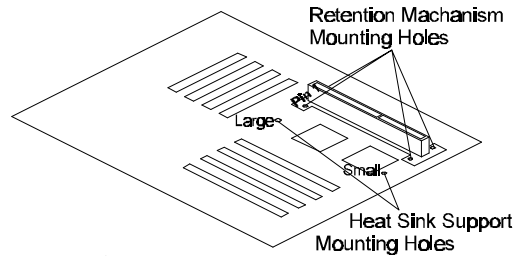

Figure 2-8
1. Finds out the Retention Mechanism (RM) Mounting Holes and "Pin 1" mark of Slot 1 on HOT-661V main board. (Refer to Figure 2-8)
1. Finds out the Heat Sink Support (HSS) Mounting Holes on HOT-661V main board. Notice that one hole is larger than the other hole. (Refer to Figure 2-8)